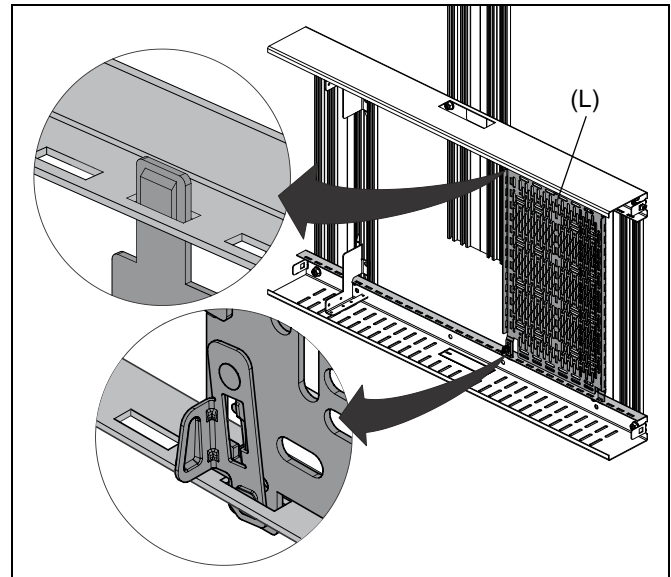

Figure 11
2. Pivot panel in and slide it down toward the slots on lower side of the rear frame panel opening. The panel will snap into the slots, securing it to the rear frame. (See Figure 11)
3. To remove the panel, squeeze the spring-loaded latch on lower end tabs of the storage panel (L) and slide the panel up and out of the slots on the rear frame.